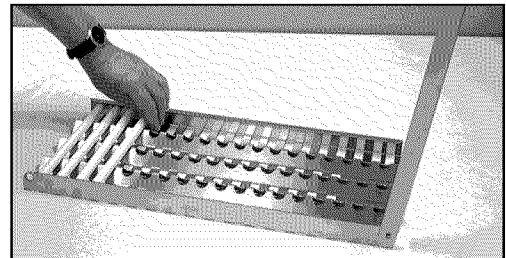

FIG. 36
3. Place 18 ceramic rods on the radiant (Fig. 36).